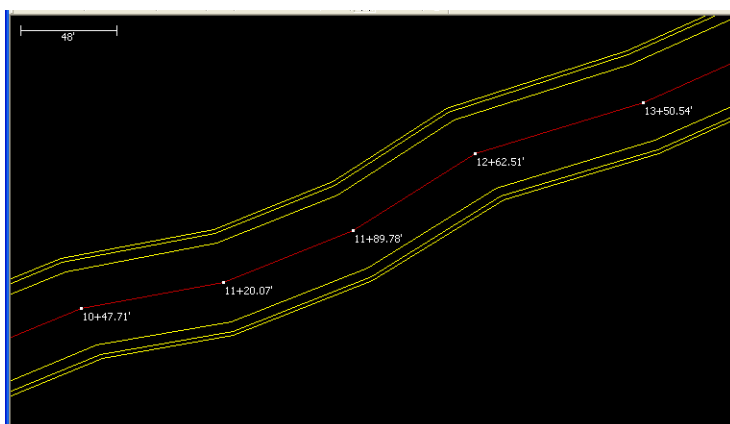

Figure 6-14. Alignment with Templates
3. Click **OK** on the *Road template placement* dialog box to place the template and view the result on the Plan View (Figure 6-14 on page 6-11). If needed, set view options to view template information (see “Setting View Options” on page 6-38 for details).